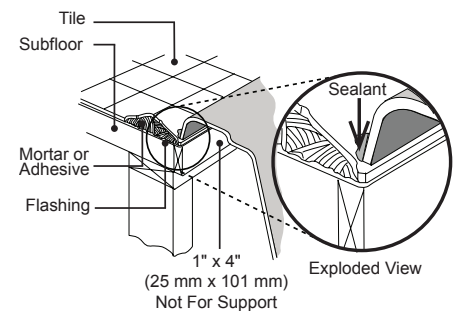

Fig. 7
- Caulk around the perimeter of bathtub to seal the space between the rim and the finished deck (Figure 7).